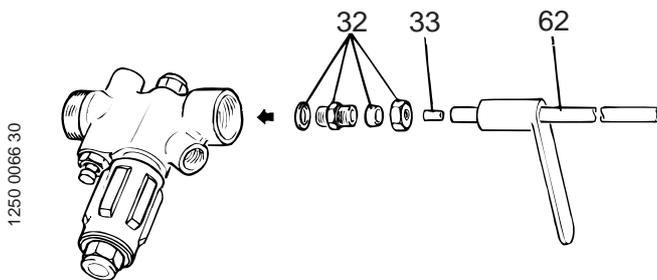
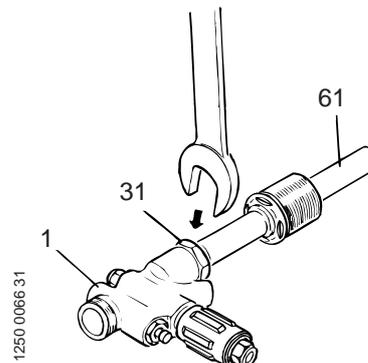

Fig. 16
Fig. 17
4. Fit the centre pipe (62) with insert sleeve (33) and pipe coupling (32) into the end piece (21) with the aid of the box spanner. See fig. 16.
5. Fit the insert (41) into the piston rod (61). Check that the centre pipe (62) enters the insert.
6. Fit the piston seals (43) to the piston (44) with the aid of a mandrel.
7. Fit the piston (44) to the piston rod (61) and tighten with the aid of the hook spanner.
8. Fit the nut (31) to the piston rod (61) and fit the piston rod to the end piece (21).
9. Lock the piston rod (61) by tightening the nut (31). See fig. 17.